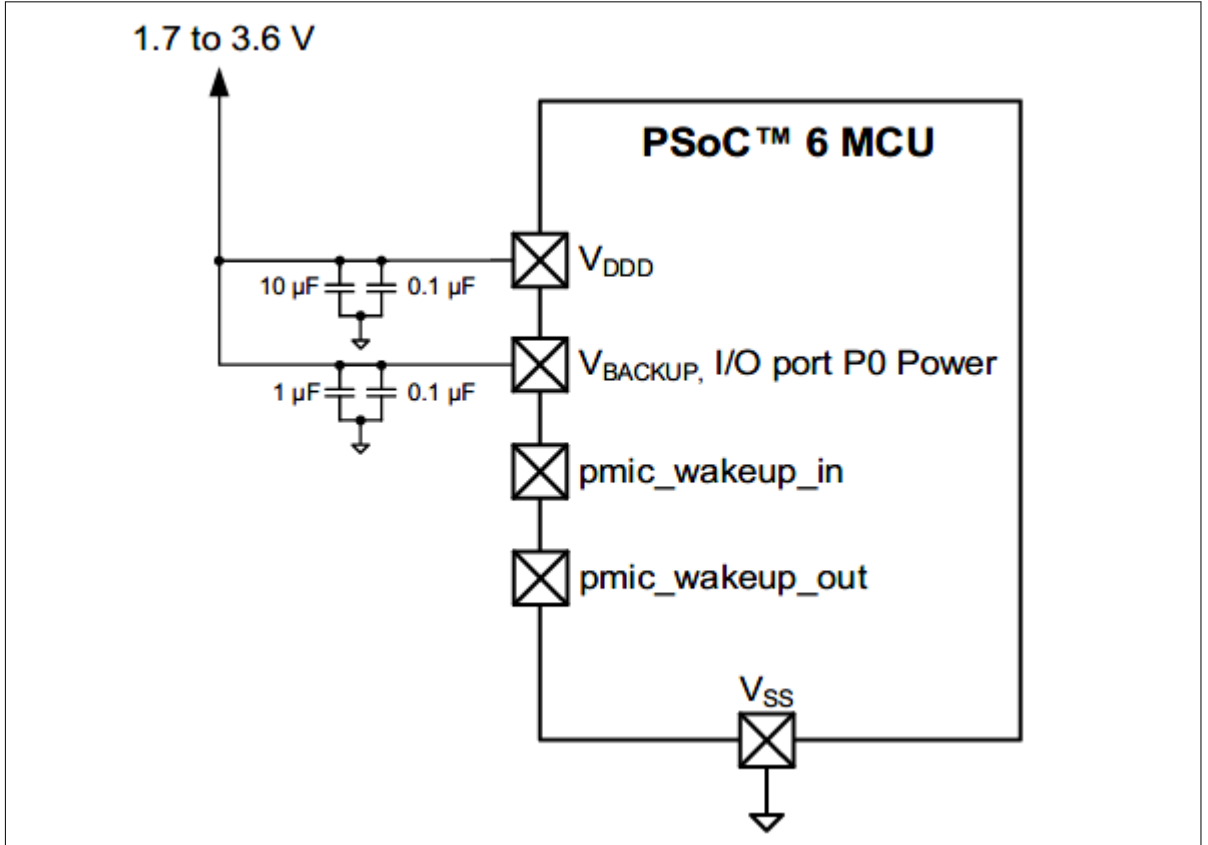

Figure 13 Backup domain combined connection
1. **V_{BACKUP} directly connected to V_{DDD}** – When the backup domain is only used with the full PSoC™ 6 MCU device, there is no reason for a separate supply. V_{BACKUP} and V_{DDD} supply pins must be directly connected together as shown in Figure 13